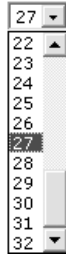

Figure 101. Output Selection Drop Box
1. Click the **Output** drop box. A drop down scroll box appears (see figure 101).
You can save and recall global presets from the Global Presets page (see figure 101). Access the Global presets page by clicking the **Global Presets** link on the left of the Set and View Ties or RGB & Audio Settings page.